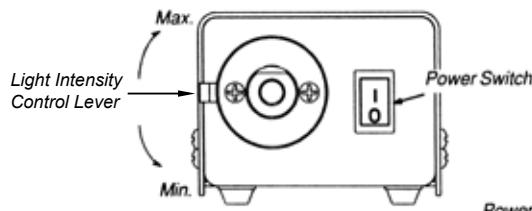

Figure 1 Front View
2. Turn the Light Intensity Control Lever to the minimum position (**Figure 1**). Plug the fiber-optic bundle into the light port and connect the opposite end to the equipment being used.
3. Turn the power switch ON position (I). The lamp will take 10-15 seconds to complete the warm-up cycle.
4. Set the light intensity to the desired level (**Figure 1**).